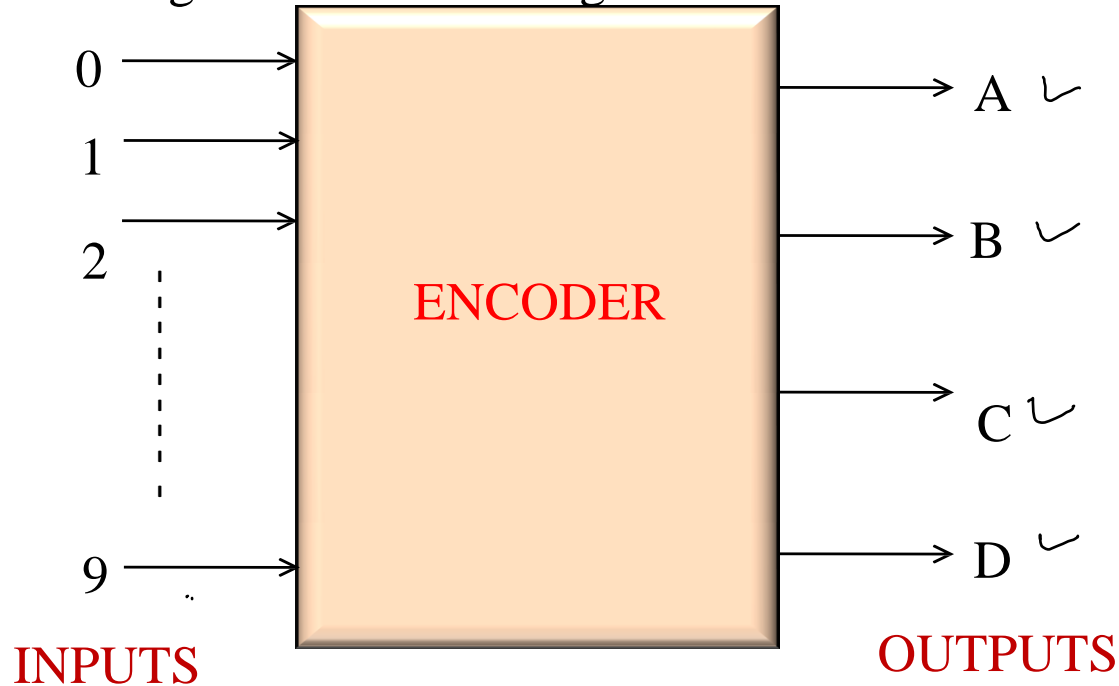

Fig. 13
- The block diagram is shown in fig.13.